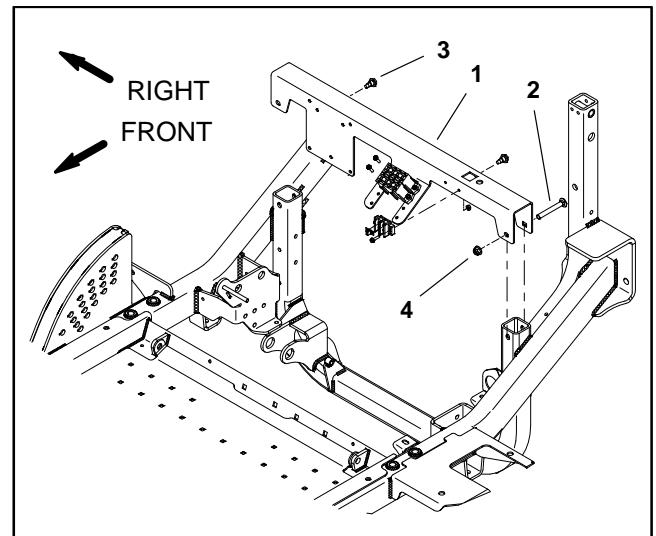

Figure 68
7. Remove two (2) carriage screws and flange nuts that secure seat channel to frame (Fig. 68). Separate channel from frame and carefully position channel away from frame to allow easier transmission removal.
11. Carefully position seat channel to frame (Fig. 68). Secure seat channel to frame with two (2) carriage screws and flange nuts.